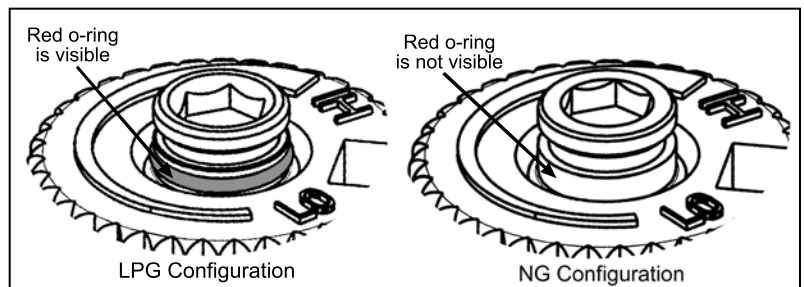

Figure 13: O-ring on valve screw.
f) Verify that if the conversion is from NG to LPG, the screw must be re-assembled with the red o-ring visible (refer to Figure 13). If the conversion is from LPG to NG, the red o-ring of the screw must be not visible.